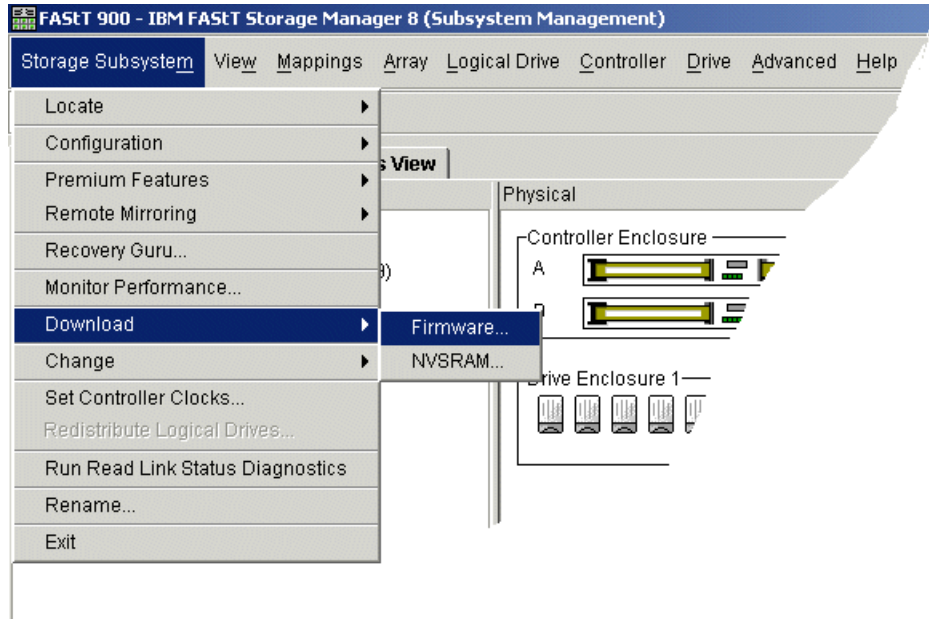

Figure 11-1 Subsystem Management window: Selecting Download -> Firmware
- a. Highlight the storage subsystem. From the Storage Subsystem menu, click **Download** -> **Firmware** (Figure 11-1 on page 336).